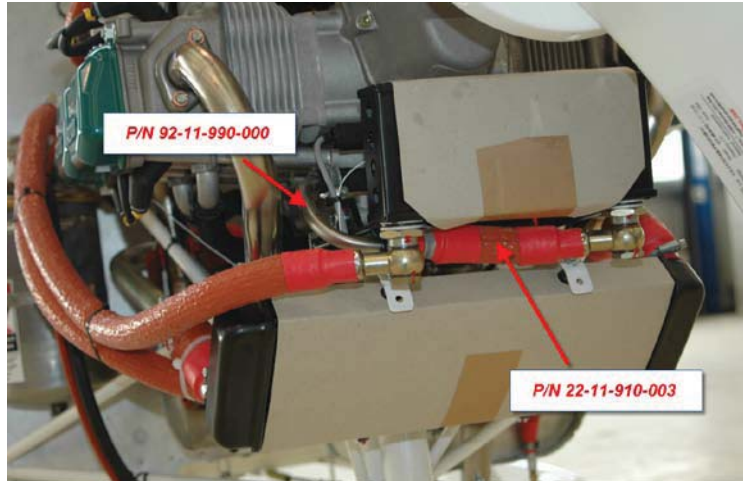

Figure 4 – P/N 22-11-910-003 and P/N 92-11-990-000 removing
- 8** Remove the “Assy radiator tube” P/N 22-11-910-003 and the “Metallic elbow” 92-11-990-000 indicated in Figure 4 and clean eventual oil leak using a cloth: